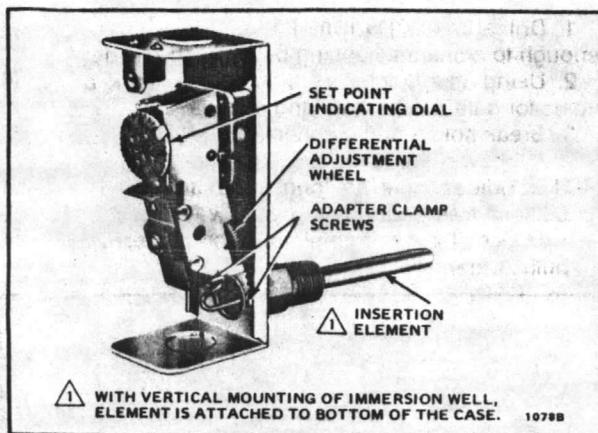

FIG. 6—INTERNAL VIEW OF L6006A.
5. Loosen screw (at top of case, above scale setting), and remove cover. Loosen two screws that secure adapter clamp (Fig. 6).